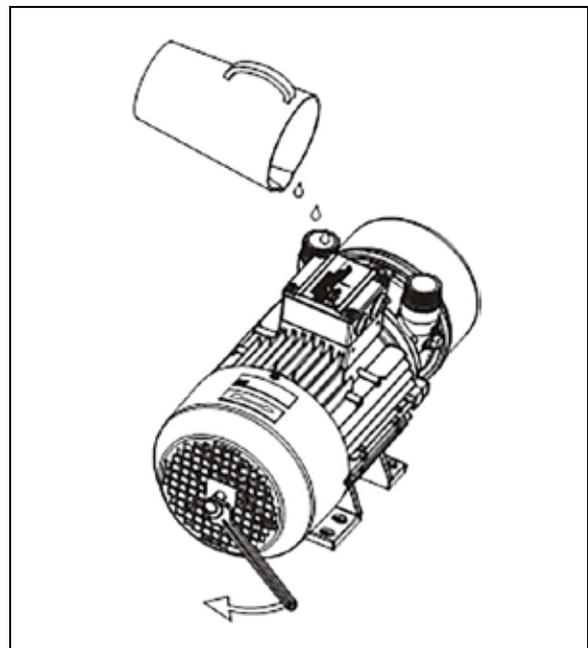

Fig. 14: Pour in preservative and turn shaft
- Pour $\frac{1}{2} \text{ l}$ [0.132 gal (US); 0.110 gal (UK)] of preservative (rust protection oil, e.g. Mobilarma 247 from Mobil Oil) into the open intake or discharge connection.
- Guide a M6 or M8 bolt (depending on the type) with a sufficient shank length through the center opening into the fan guard and screw into the shaft end on the external fan side (see Fig. 14, Pg. 31).